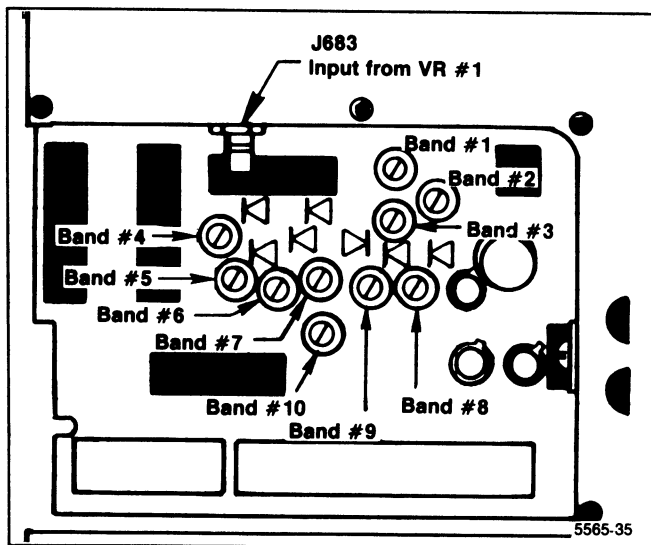

Figure 5-25. Band leveling adjustment and gain diode locations.
e. Adjust Band 2 Gain R3034 on the VR Mother board #2 (Figure 5-25) for a full screen (-20 dBm) display.
h. Adjust Band 3 Gain R3030 (Figure 5-25) for a full screen display.
b. With -60 dBm input level applied, adjust Band 6 Gain Leveling R3024 (Figure 5-25) for full screen display.